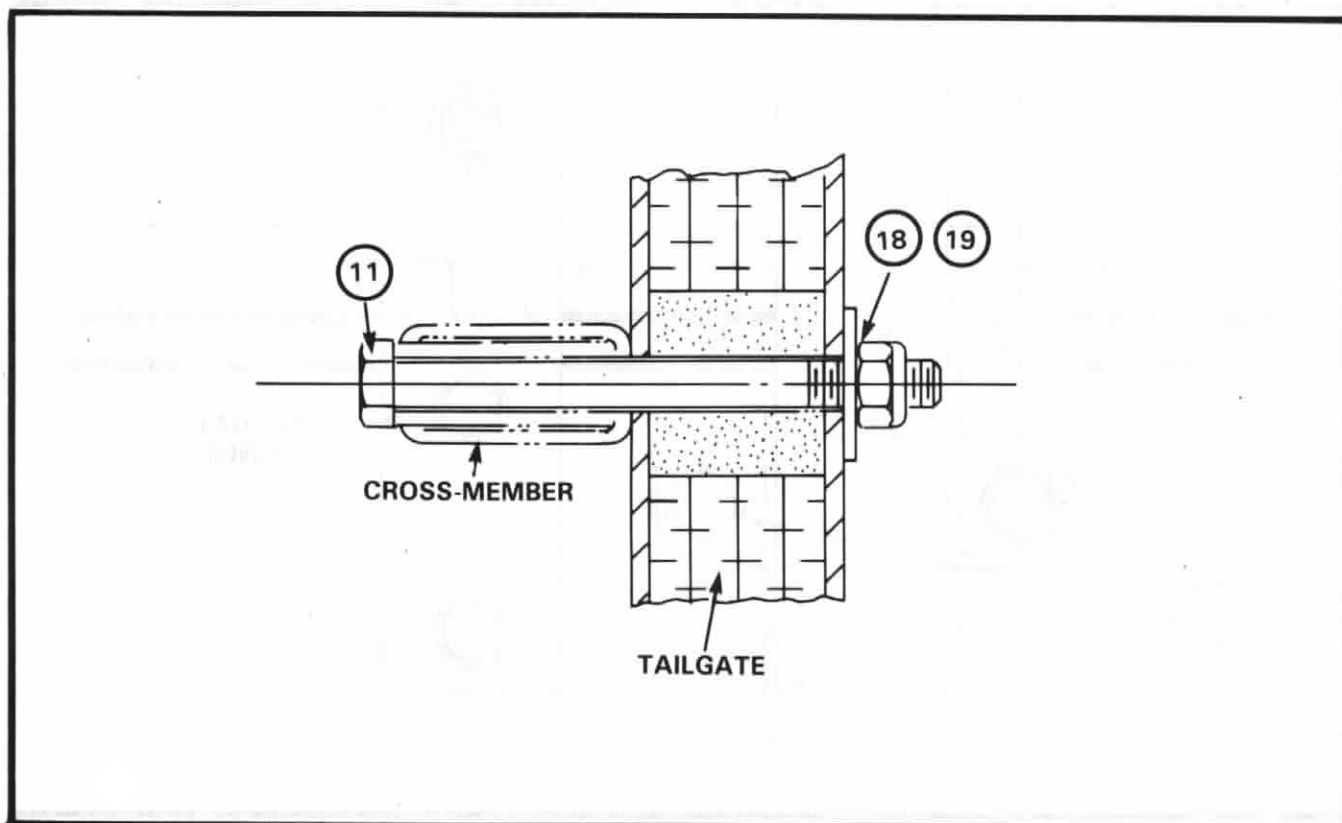

Figure 5 Securing Carrier Cross-Member to Tailgate
- g. See Figure 5. Secure the spare wheel carrier cross-member using the three screws (11) with flat washers (19) and self-locking nuts (18).